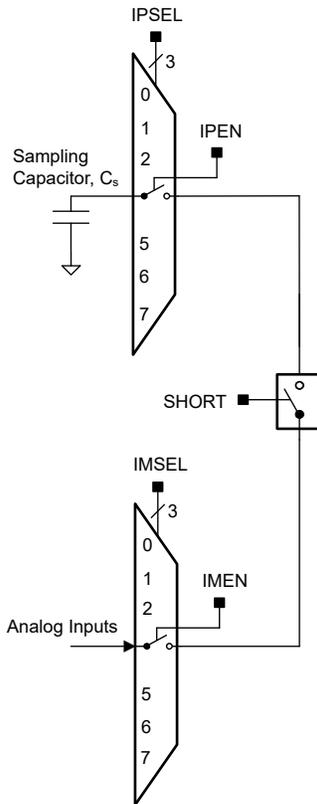

Figure 6-7. Comparator Short Switch
As shown in Figure 6-7, the required sampling time is proportional to the size of the sampling capacitor (C_S), the resistance of the input switches in series with the short switch (R), and the resistance of the external source (R_S). The sampling capacitor C_S should be greater than 100 pF. The time constant, Tau, to charge the sampling capacitor C_S can be calculated with the below equation.